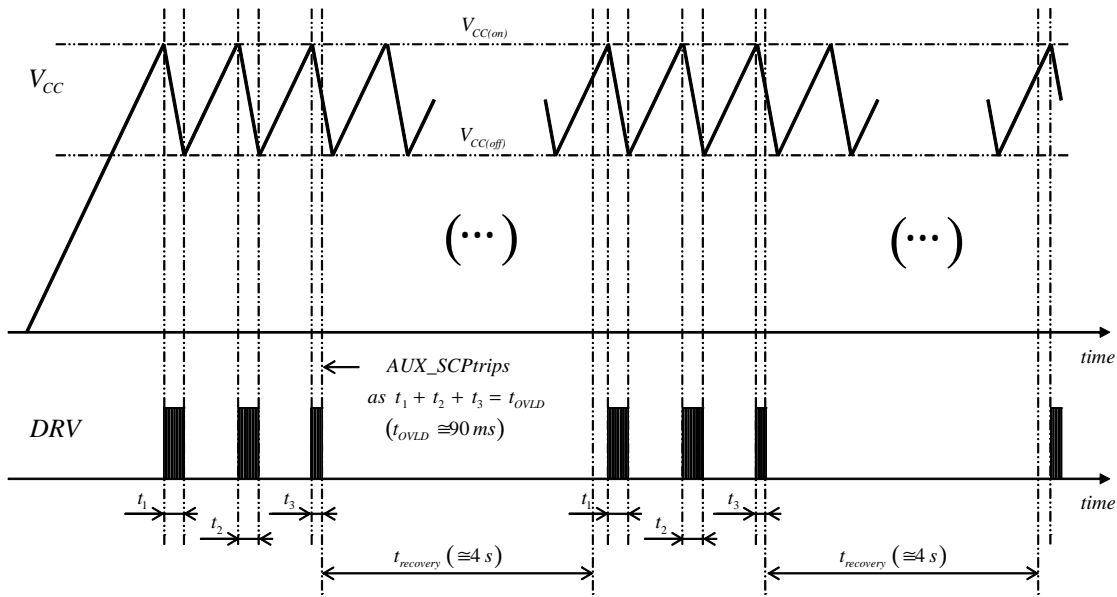

Figure 60. Start-up Sequence in a Load Short-circuit Situation
- If the load is shorted, the circuit will operate in hiccup mode with  $V_{CC}$  oscillating between  $V_{CC(off)}$  and  $V_{CC(on)}$  until the AUX\_SCP protection forces the 4-s auto-recovery delay to reduce the operation duty-ratio (AUX\_SCP trips if the ZCD pin voltage does not exceed 1 V within a 90-ms operation period of time thus indicating a short to ground of the ZCD pin or an excessive load preventing the output voltage from rising). Figure 60 illustrates a start-up sequence with the output shorted to ground.